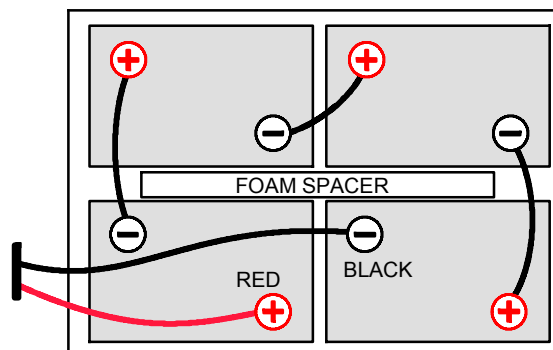

FIG. 3
3. Using the supplied battery post boots, connect the cables to battery posts, RED TO POSITIVE (+) & BLACK TO NEGATIVE (-) (Figure 3).